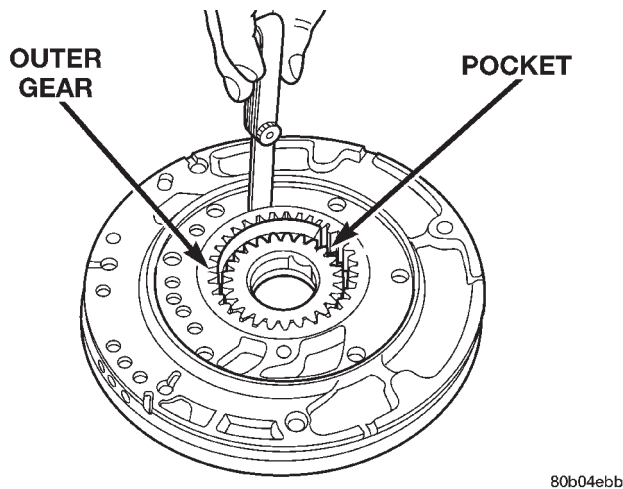

Fig. 88 Measure Outer Gear to Pocket
- (3) Remove the pump gears and check for wear and damage.
- (4) Install the gears and check clearances.
- (5) Measure the clearance between the outer gear and the pump pocket (Fig. 88). Clearance should be 0.045-0.141mm (0.0018-0.0056 in.)